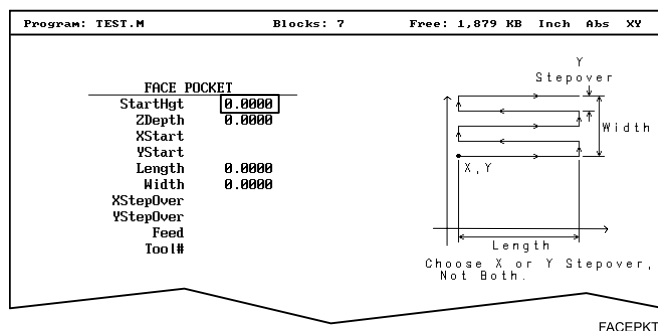

Figure 4-11, FACE POCKET Graphic Menu
2. Move the highlight to select **Face** and press **ENTER** to display the **FACE POCKET** Graphic Menu. Refer to **Figure 4-11**.